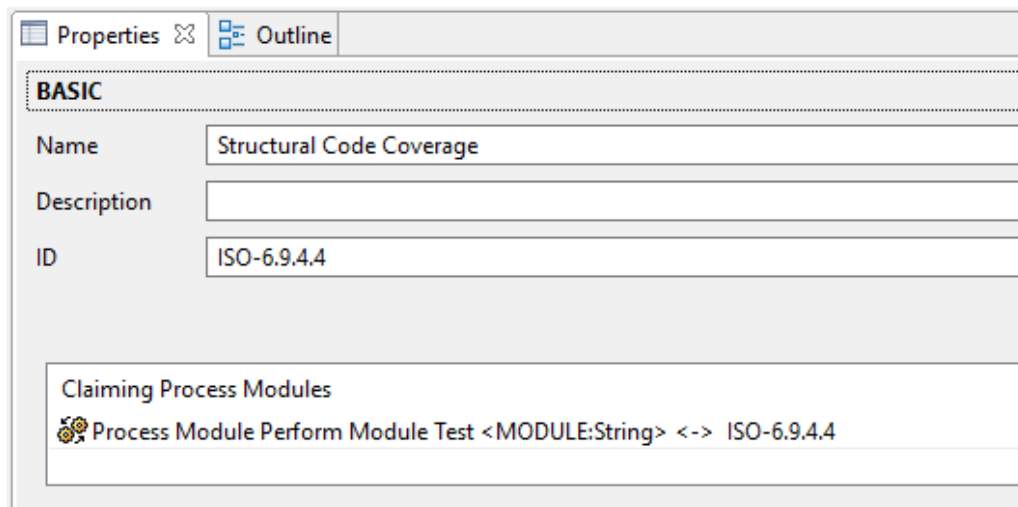

Figure 67: Claiming Process Modules in Requirement
- In Requirements: Use the association "ClaimingProcessModules" (BASIC part), see Figure 67.